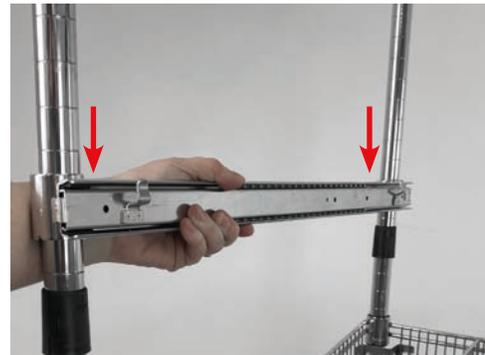

Fig. 4
To continue the process with flat wire slide out shelves, snap the split sleeves into the preferred location on the posts as before. Flat Wire Slide Out Shelves come with a set of two (2) slide rails. Each slide rail has two (2) prongs to seat the shelf on. With the prongs facing inward and up, move the slide rail collars down over posts and split sleeves (Fig. 4). Repeat this process on the other side.